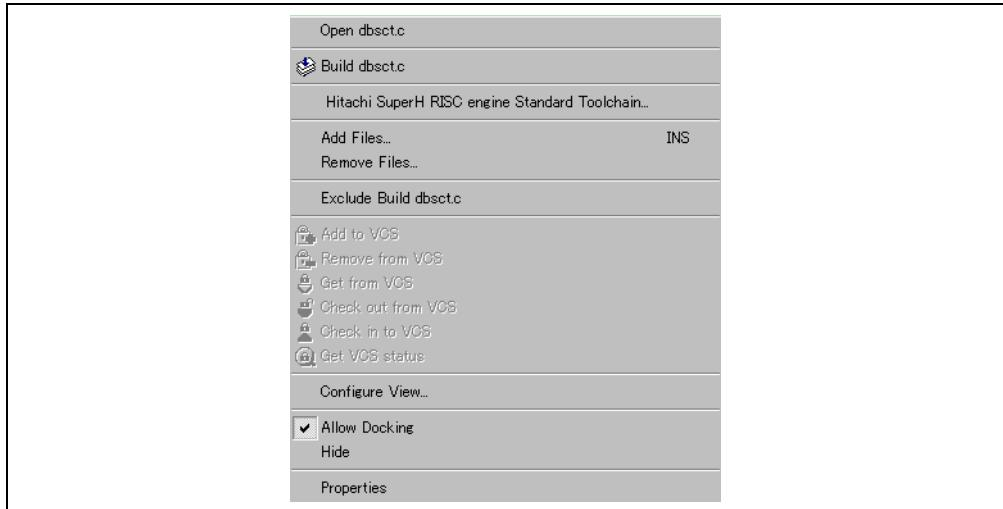
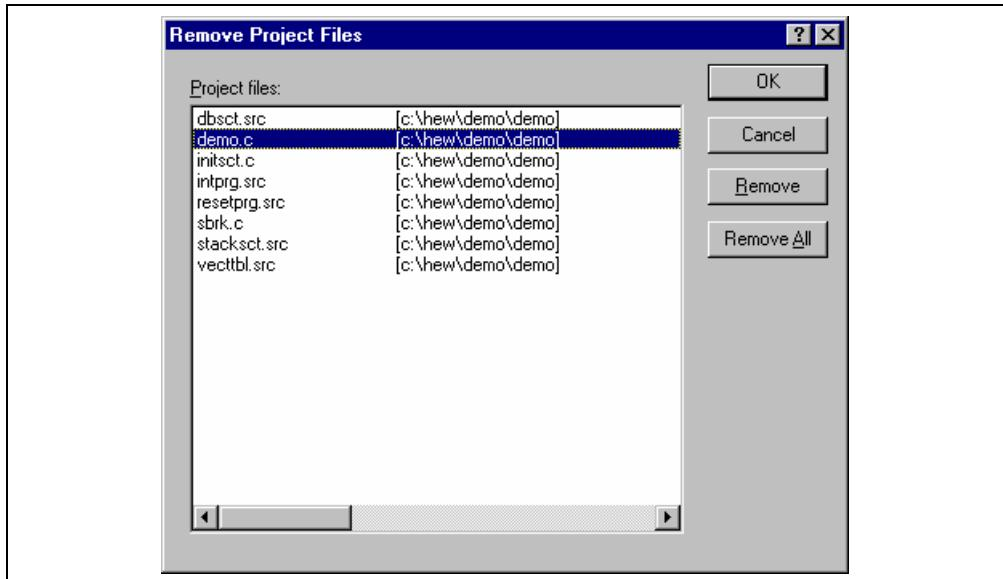

Figure 2.5: Projects Tab Pop-up Menu
Figure 2.6: Remove Project Files Dialog
1. Select **[Project->Remove Files...]**, or select **[Remove Files...]** from the “Projects” tab’s pop-up menu in the Workspace window (see figure 2.5). The “Remove Project Files” dialog will be displayed (figure 2.6).
2. Select [**Exclude Build file**], where <file> is the selected file, from the pop-up menu (figure 2.5). Then a red cross will be put on the file’s icon, and the file will be excluded from build.